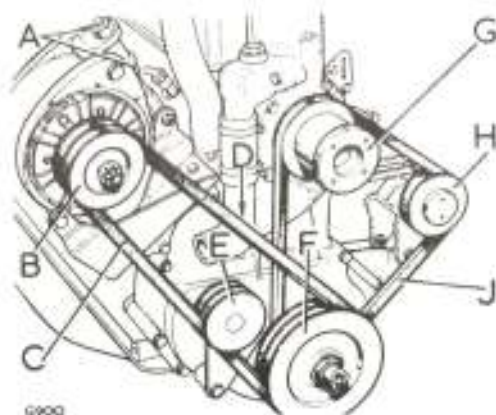

Fig. 43 Generator and fan belt layout, 24 volt models
- (d) A steady pulley is fitted to the generator belts to prevent twist at fluctuating engine speeds. See Fig. 43. It is important that the steady pulley is not used for generator belt adjustment otherwise premature bearing wear will occur. If at any time new generator belts are fitted, the steady pulley should be set so that the belts are inside the grooves on the pulley. Then position the unit so that the pulley can just be turned by hand, but does not distort the belts in any way.